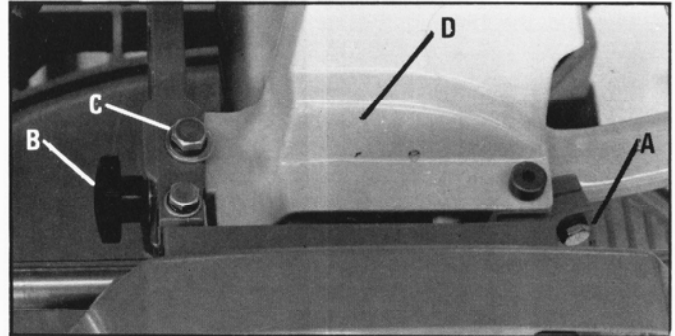

Fig. 43
1. Loosen screw (A) and lock knob (B) Fig. 43.
2. To raise the saw blade, turn screw (C) Fig. 43, clockwise while lifting up slightly on the saw handle. To lower the saw blade, turn screw (C) counter-clockwise and push down on housing (D).
3. After saw blade is adjusted for proper height, tighten screw (A) and lock knob (B) Fig. 43.